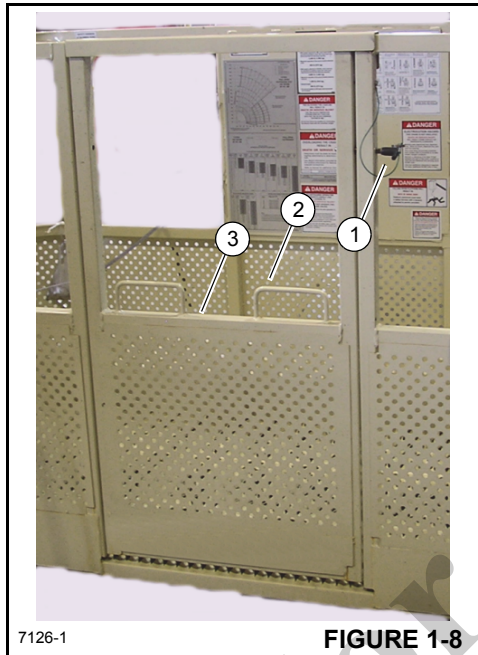

FIGURE 1-8
- To enter the basket, remove the gate locking pin (1, Figure 1-8), pull up on the grab handle (2) and swing the gate (3) open.
2. Connect the safety harness. Close the basket gate (3, Figure 1-8) by lifting up on the gate grab handle (2) and move the gate to the closed position, reinstall the safety pin (1).